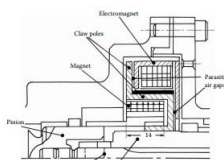

FIGURE 7.60 Base claw pole actuator assembly. (Courtesy of Delphi Corp.)
- The claw pole actuator basic geometry for the improved speed-sensitive steering application is shown in Figure 7.60.